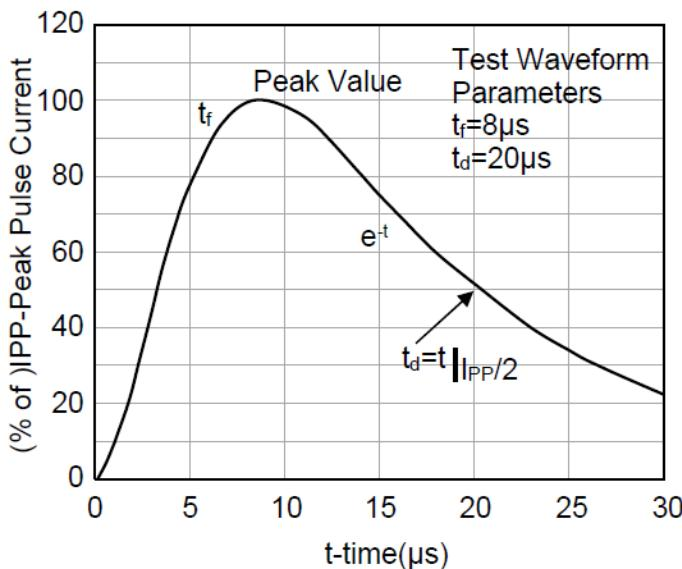

Figure 1. Pulse Waveform according to IEC 61000-4-5
1. Surge current waveform per Figure 1 according to IEC 61000-4-5.